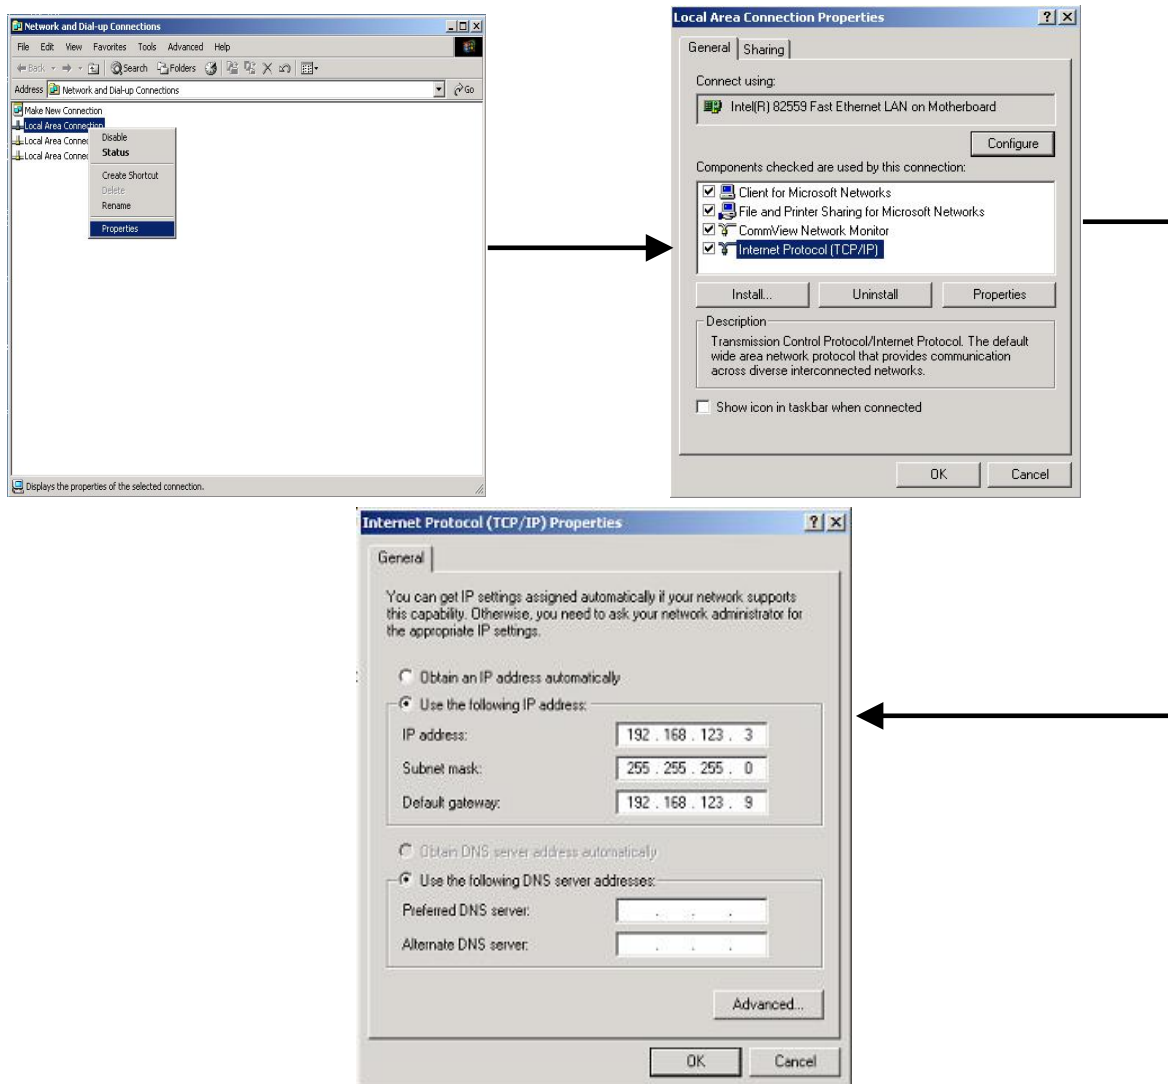

Figure 5
- Edit the TCP/IP properties page as shown below. Refer to Figure 5.
- d) Select "Internet Protocol (TCP/IP)" and click on Properties (Figure 5).
- e) Make sure "Obtain an IP address automatically" is selected (Figure 5).